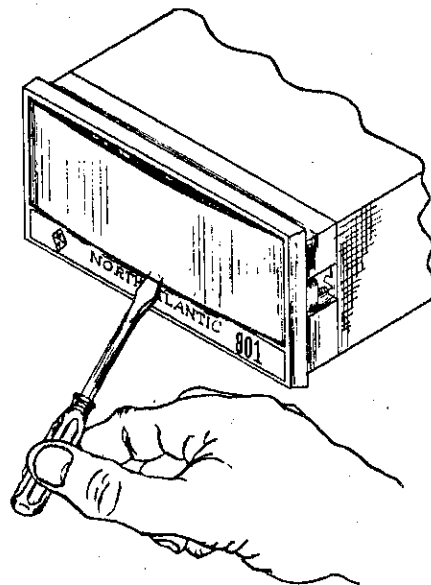

Figure 2-2. Removal of Lens
- b. Remove front lens by inserting a screwdriver at the bottom of the lens, pushing it upwards and prying out lens (figure 2-2).